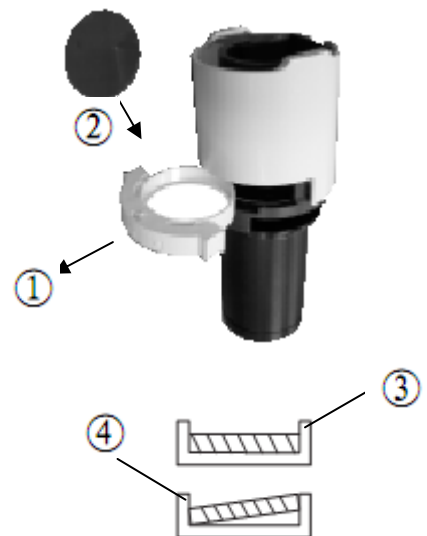

Fig.11
### 2-2-7 Installing the color filters ( Fig.11 )
Push the filter down to the bottom as shown in Fig.11 (3) so that it does not tilt. If the filter is inclined or is not pushed down to the bottom (4), it may fall off the filter holder.